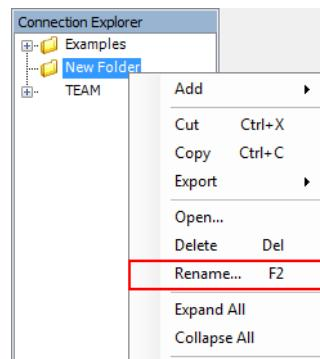

Figure 167 Rename Folder
Step 6. Right-click **New Folder** and select **Rename**, as shown in *Figure 167*.